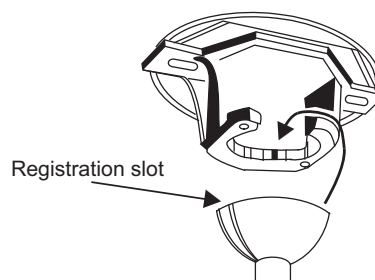

Figure 7
**Step 7.** Place the downrod ball into the hanger bracket socket. (Fig. 7)